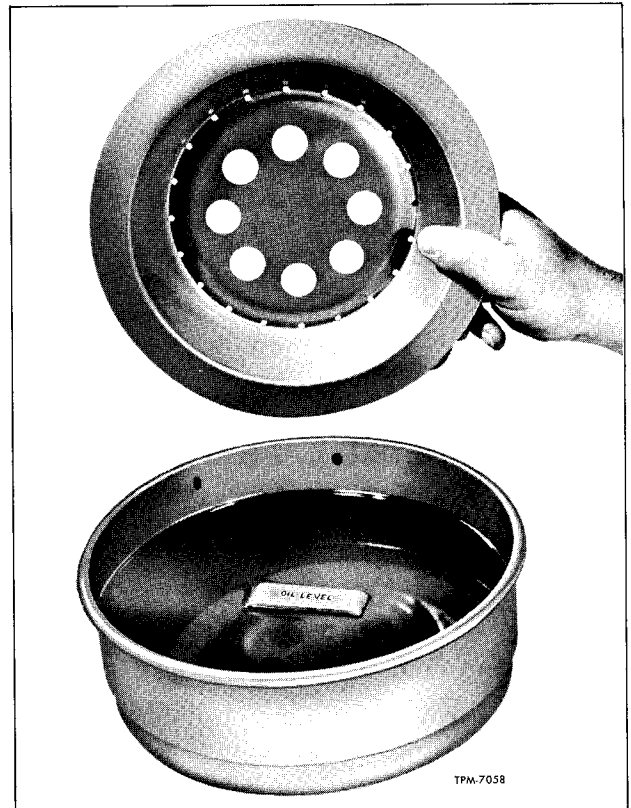

Figure 2—Oil Level In Air Cleaner Reservoir
6. Fill reservoir up to "OIL LEVEL" mark on bracket at center of reservoir (fig. 2) using same grade of oil as used in engine. Install oil baffle at center of reservoir.